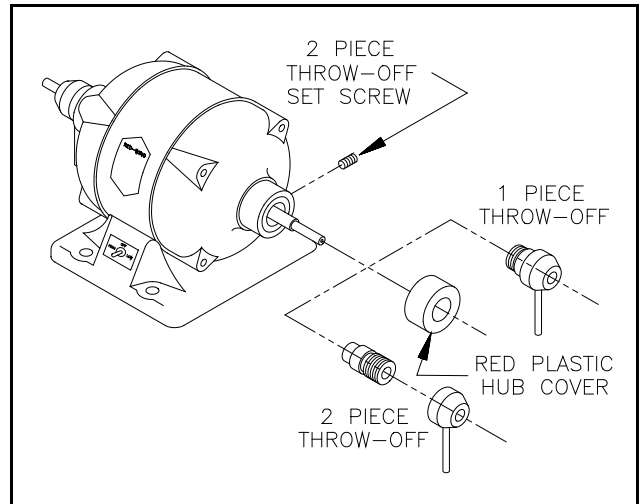

Figure 4. Right side throw-off
- 3.1 **UNPLUG THE LATHE POWER CORD.** Remove the red plastic hub cover and unscrew the right side throw-off. See Figure 4. If the throw-off is in two pieces, remove the set screw in the hub with the 3/32 hex wrench and remove the male threaded bushing.